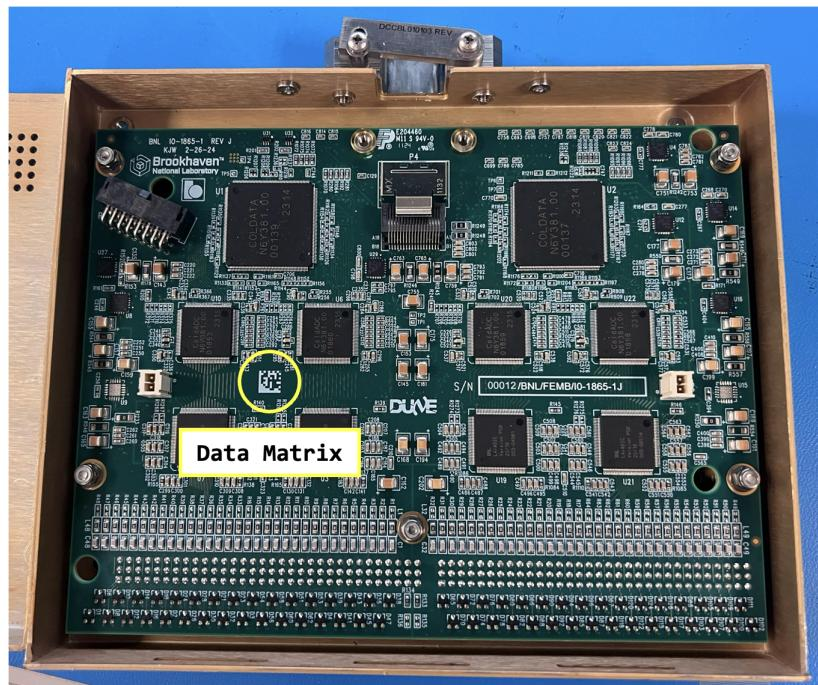

Figure 24: An FEMB inside a CE Box. Its Data Matrix is enclosed in a circle.
1. Refer to Figure 24 to locate the code (either QR or DM) on the FEMB.